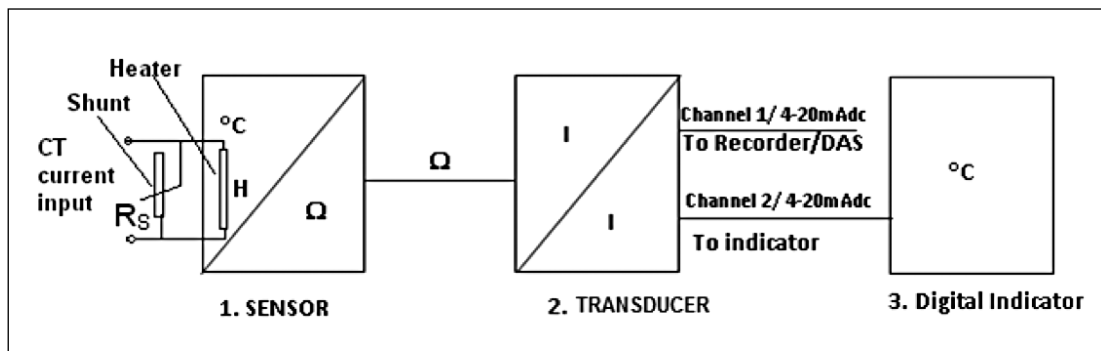
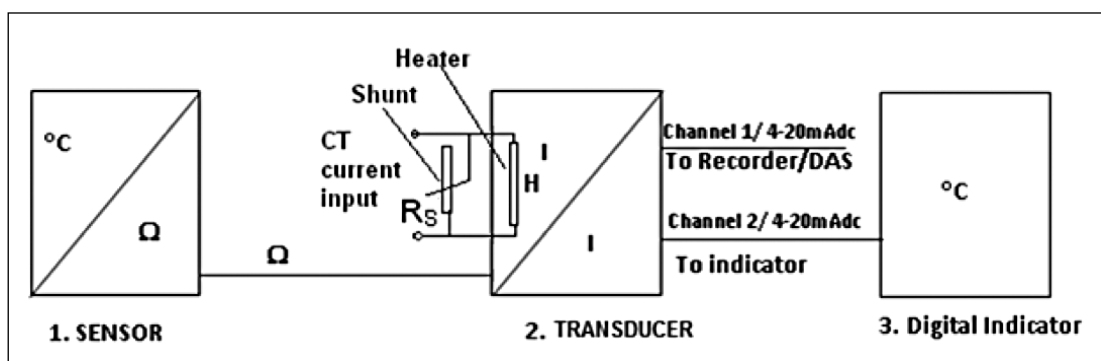

Fig. 2.6: Block diagram of PT100 RWTI – Dual Output Channel Thermal Sensing Method - Scheme 1.
Fig. 2.7: Block diagram of PT100 RWTI – Dual Output Channel Thermal Sensing Method - Scheme 2.
The PT100 Sensor assembly is mounted in an oil-filled pocket located in the hottest oil of the transformer. A Heater Coil (H) and Shunt (RS) assembly either mounted in the PT100 sensor assembly (as shown in Fig. 2.6) or in the Transducer (as shown in Fig. 2.7) is fed with current from a CT placed in the transformer load circuit. The Heater simulates the hot-spot Temperature rise of the winding over the top oil temperature corresponding to the transformer load current. The PT100 Sensor assembly reacts to this simulated temperature rise in addition to the top oil temperature. To obtain precise thermal image, a portion of the current through the Heater is shunted through a calibrating Shunt Resistor. The thermal time constant of the Heater is nearly the same as that of the transformer winding. Hence, the Sensor assembly simulates closely the actual hot-spot temperature of winding in relation to time.